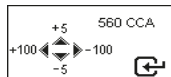

Fig.17
13. To adjust the CCA value, press ◀ or ▶ key will increase or decrease the value by 100 while ▲ or ▼ key will increase or decrease the value by 5 as shown in Fig.17 below.